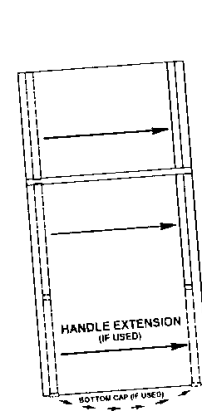
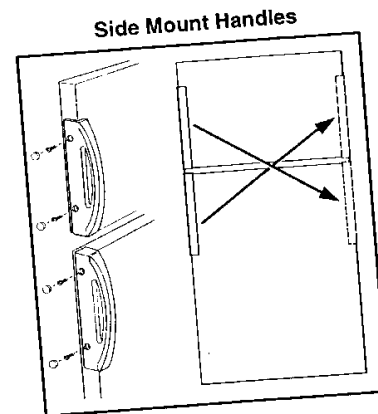

Fig. 15
Fig. 16
15. Install the handles on the opposite side of door as shown in figure 15. If your model has side mount handles, install the handles as shown in figure 16.